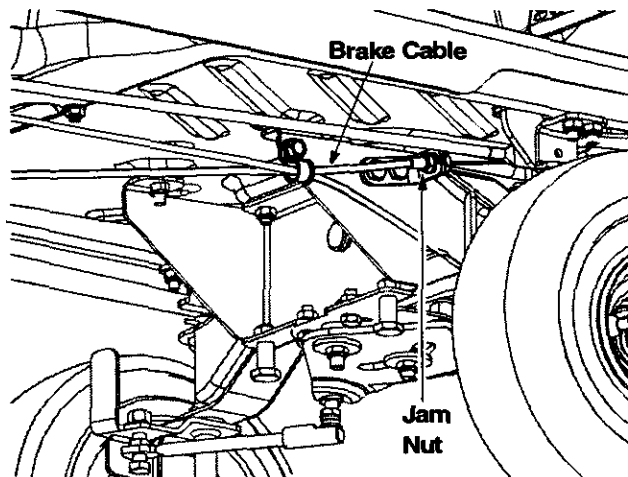

Figure 23
1. Using a pair of 1/2" wrenches, loosen the jam nuts and back the cable out to tighten or thread inward to loosen. See Figure 23 .
2. Retighten the jam nuts when proper tension is reached. See Figure 23 .